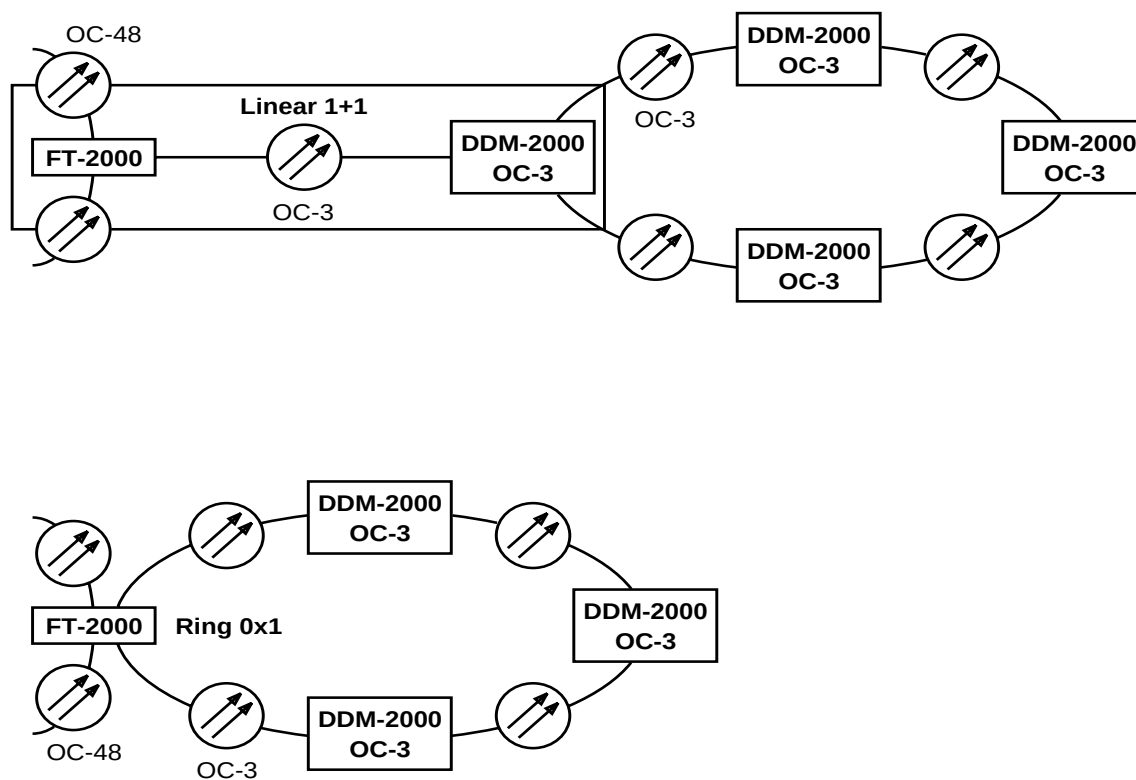
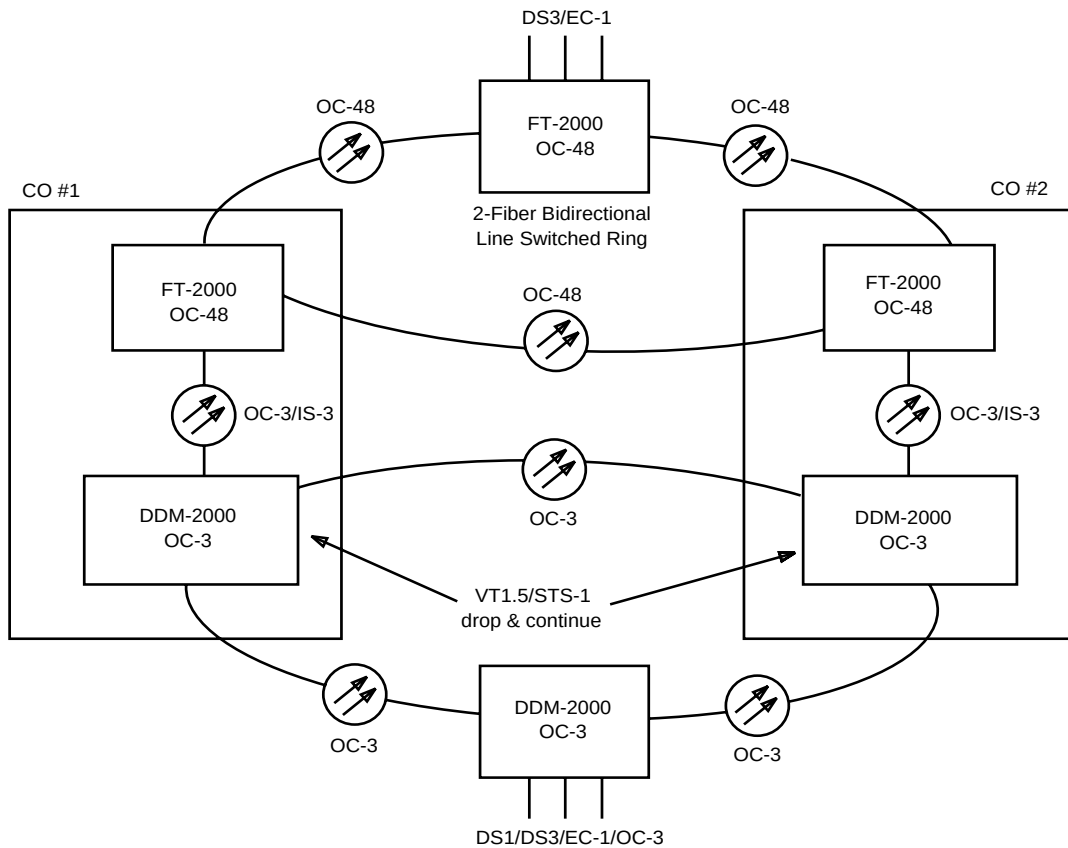

Figure 2-45. OC-3 Ring Interfaces with FT-2000 OC-48 Lightwave System
Figure 2-46. DDM-2000 OC-3 to FT-2000 OC-48 Lightwave System Dual Ring Interface
Figure 2-45 shows two types of OC-3 interface connections between FT-2000 OC-48 Lightwave System line switched rings and DDM-2000 OC-3 path switched rings.
- **Linear (1+1).** In this configuration (top figure of Figure 2-45), there is a 1+1 OC-3 interface connection to an FT-2000 OC-48 Lightwave System NE. A failure of the 1+1 OC-3 interface will trigger a DDM-2000 OC-3 line protection switch. Figure 2-46 shows a major application of this feature in a DRI application using optical OC-3/IS-3 interfaces.
- **Ring (0x1).** In this configuration (bottom figure of Figure 2-45), there are two 0x1 OC-3 interface connections to one FT-2000 OC-48 Lightwave System NE. A failure of one of the 0x1 OC-3 interfaces will trigger a DDM-2000 OC-3 path protection switch.